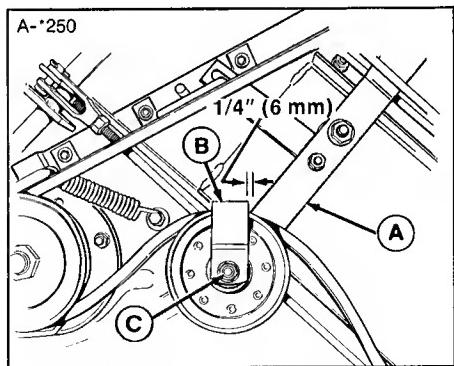

Figure 33. Idler Pulley Belt Guide
The idler pulley belt guide is correctly adjusted when its edge is $1/4$ inch (6 mm) from the rear edge of the idler arm (figure 33). If not, loosen the nut (C) and move the belt guide. Tighten the nut and recheck the measurement.